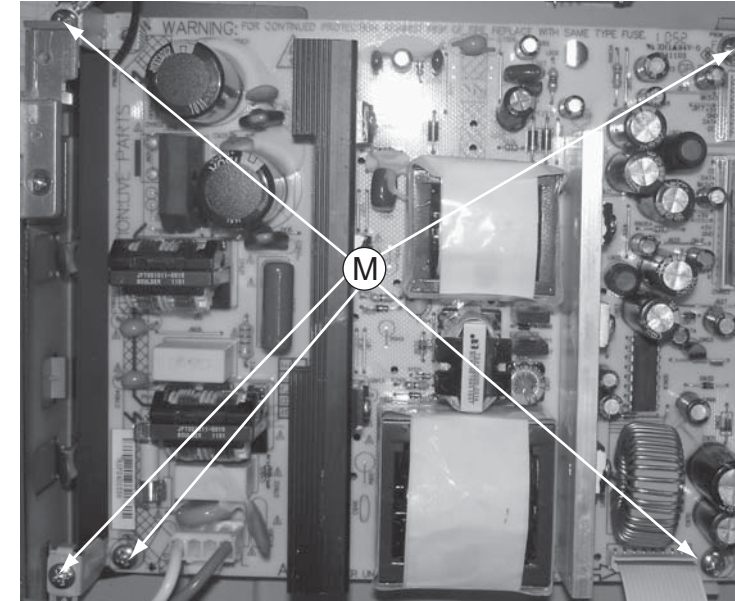

Figure 15
- 1) Loosen 5 screws "M" on the top of Power Board as shown in figure 15.